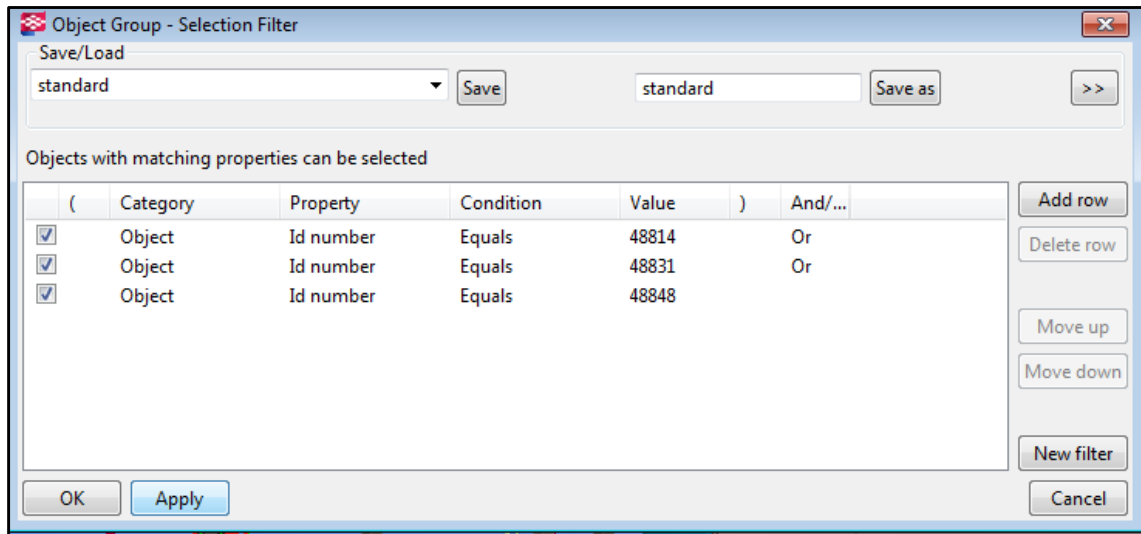

Figure 3-29
- Create filter definition according to the following rule (shown in Figure 3-29)